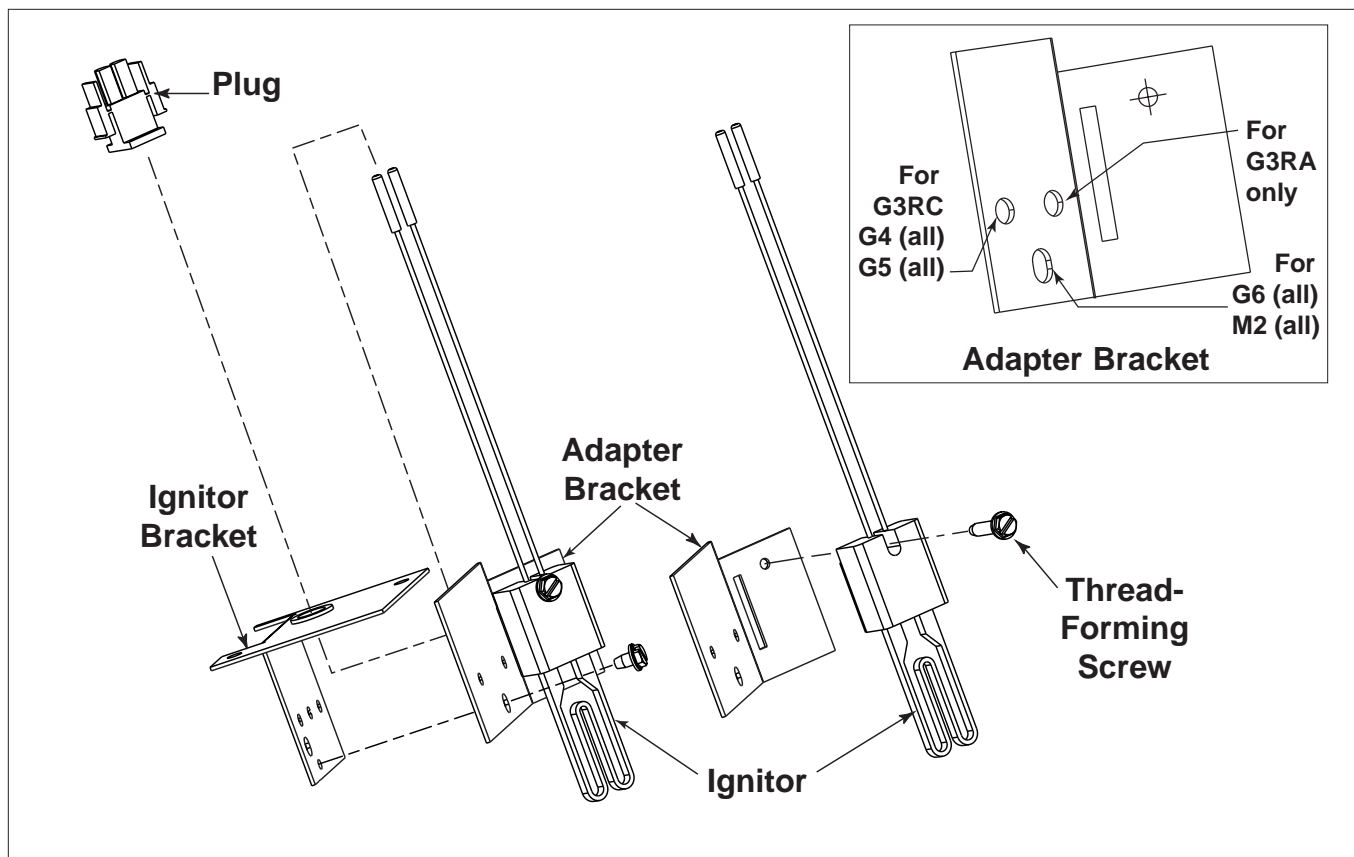
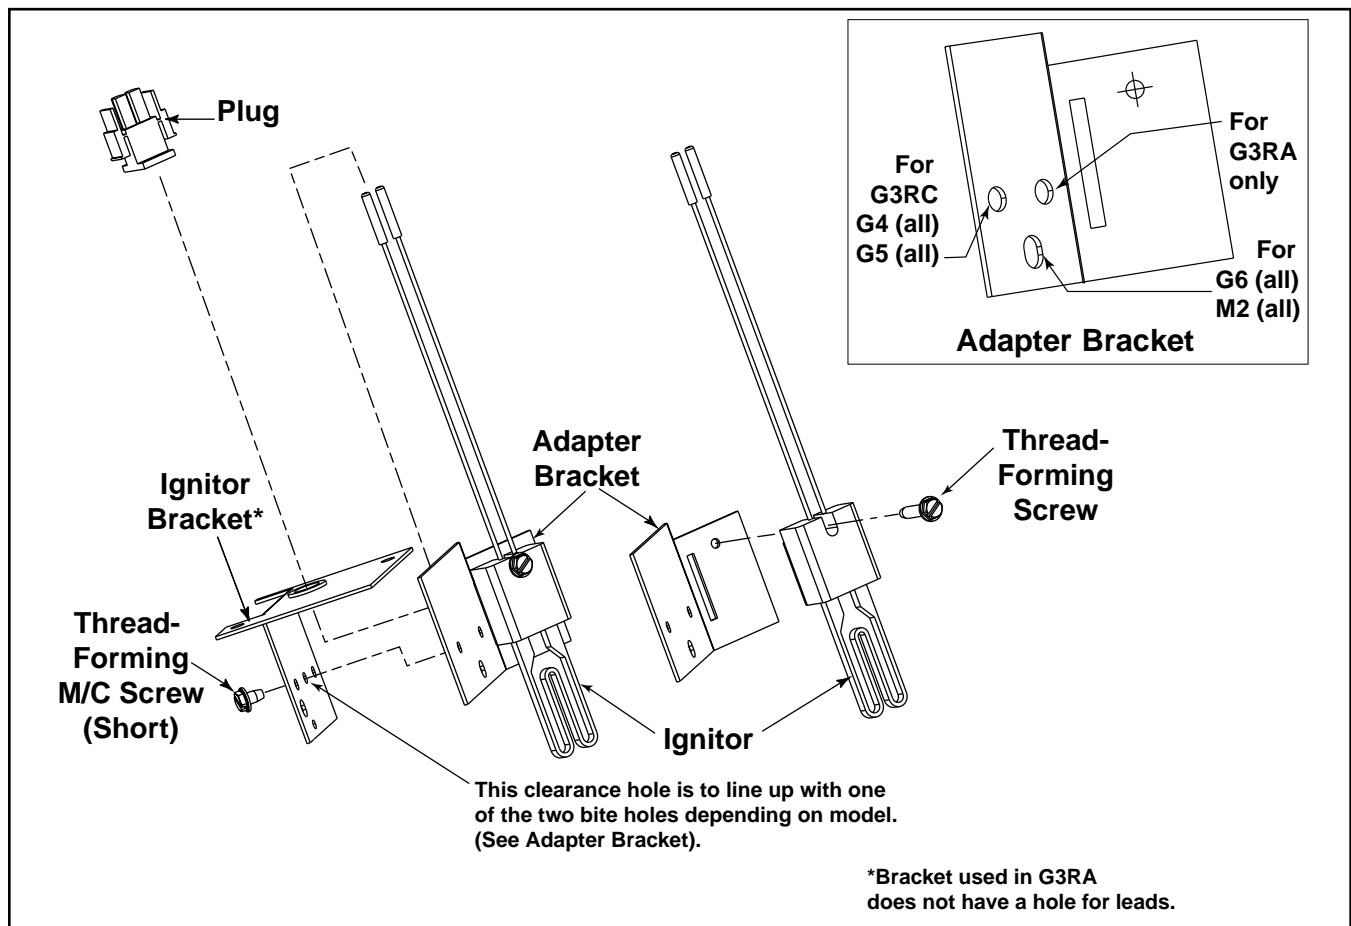

Figure 1. Attaching the ignitor Bracket to all G6 and M2
Figure 2. Attaching the ignitor Bracket to G3, G4 and G5
4. If the existing ignitor element is spiral in shape, then the adapter bracket supplied with the kit will be required to install the new ignitor. The adapter bracket has one elongated hole (used for all G6 and M2 models) and two bite holes, one of which is used to attach to ignitor bracket depending on the model series. See figures 1 and 2. Remove the existing ignitor from the ignitor bracket by removing the fasteners. Keep the fasteners.
6. Secure the new ignitor to the adapter bracket, using the thread-forming screw supplied in the kit, as shown in Figure 1. Ensure that the leads of the ignitor are through the hole in the ignitor bracket before securing the ignitor. Attach the adapter bracket to the ignitor bracket using one of the fasteners removed earlier, as shown in Figure 1 for G6 and M2 series. For all other models, secure ignitor bracket to adapter bracket using the short thread-forming screw (supplied with kit) threaded into the appropriate bite hole. See figure 2.